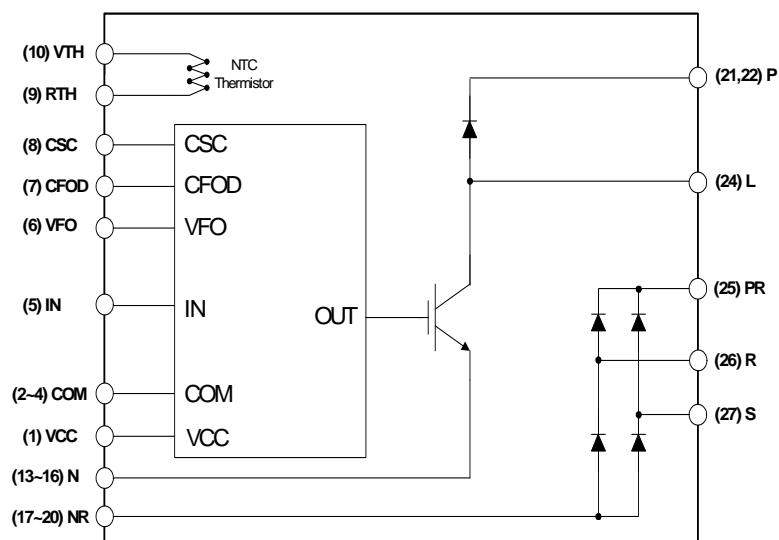

Figure 3. Internal Block Diagram
- PFC converter for single-phase AC / DC power conversion (please refer to Figure 3)